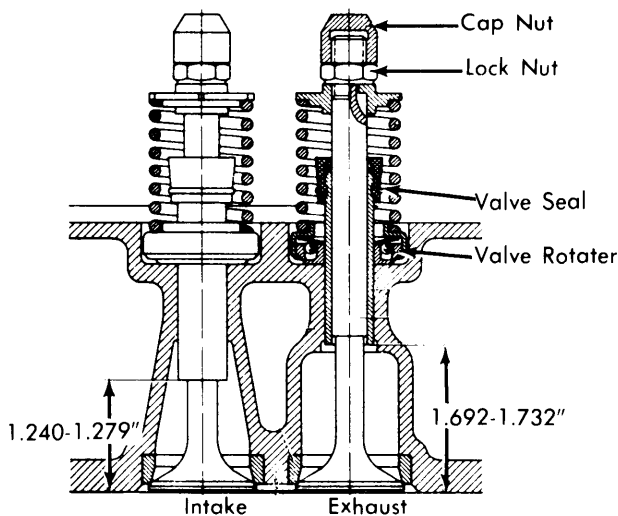

Fig. 2 Installed View of Valve Assemblies
3) Press in new guides from combustion side until specified distance is achieved. See Fig. 2. Check guide bores and remove any tight spots.